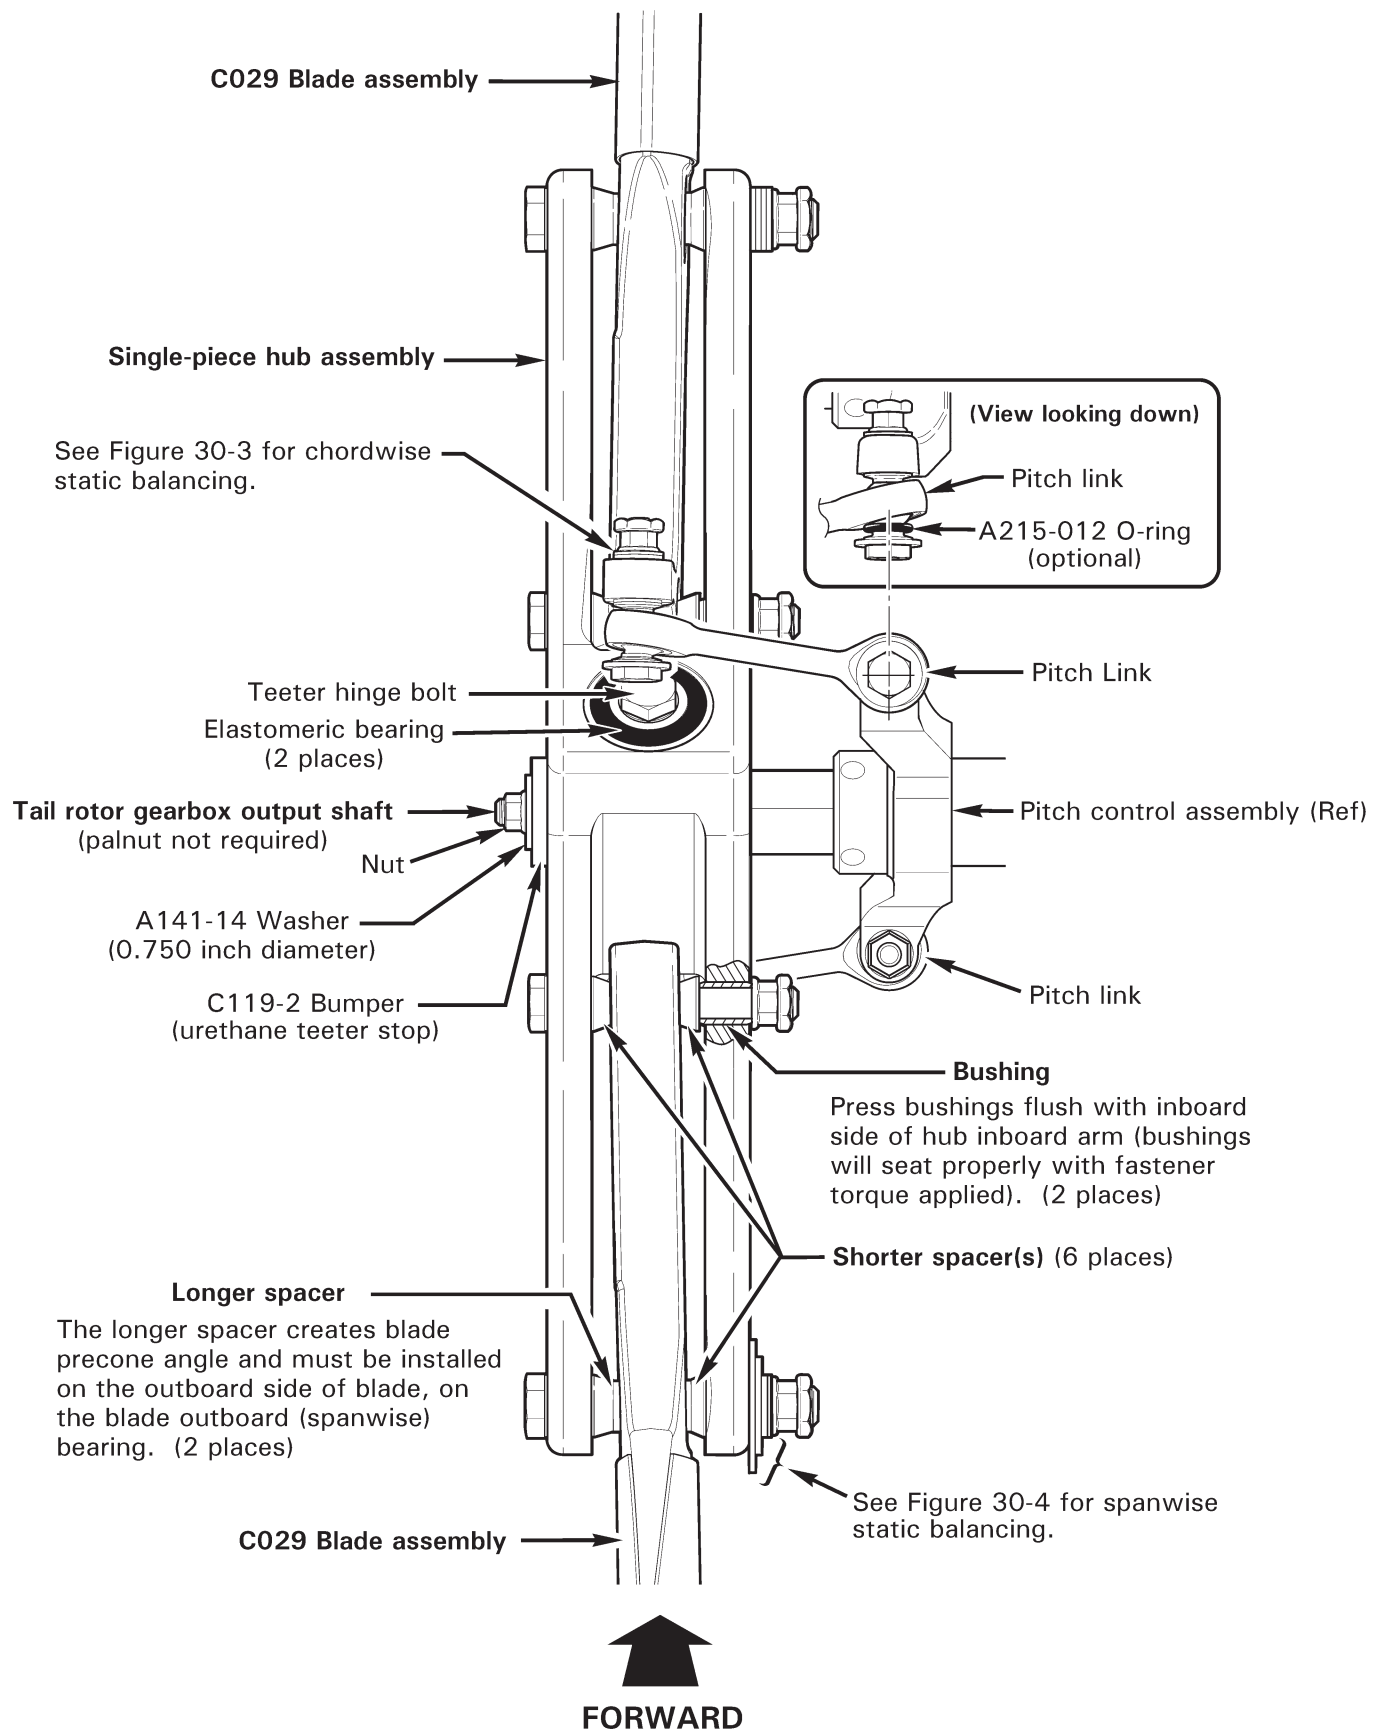
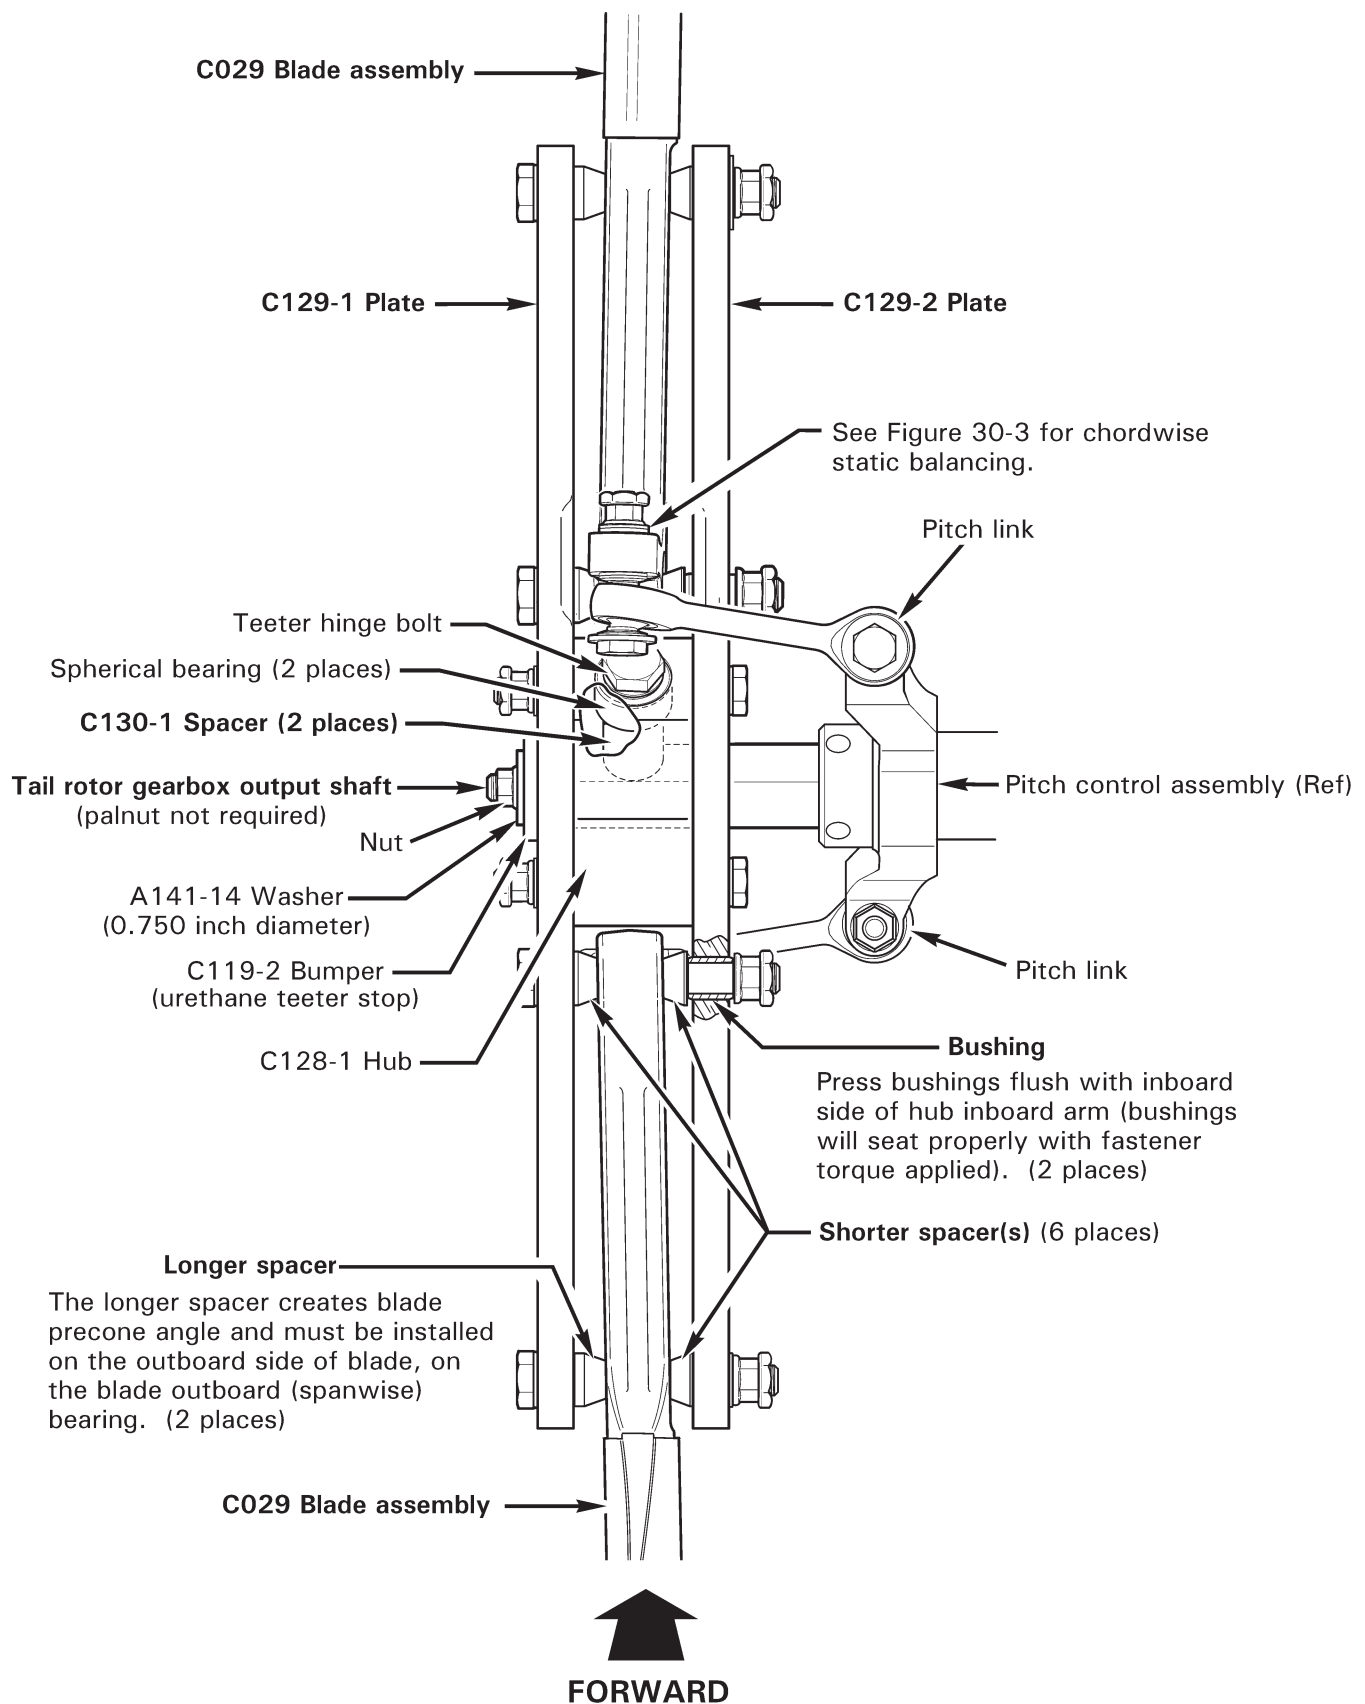

FIGURE 30-1 SINGLE-PIECE HUB TAIL ROTOR ASSEMBLY INSTALLATION
FIGURE 30-2 THREE-PIECE HUB TAIL ROTOR ASSEMBLY INSTALLATION
1. Refer to Figure 30-1 or Figure 30-2. Mark or tag each pitch link and corresponding blade for reinstallation. Remove hardware securing pitch links to tail rotor blades, noting hardware removed.
3. Refer to Figure 30-1. Position tail rotor assembly on tail rotor gearbox output shaft, matching tail rotor blades to corresponding pitch links. Verify tail rotor is installed for clockwise rotation when viewed from left side of aircraft.
3. Refer to Figure 30-2. Position C130-1 spacers inside hub and install tail rotor assembly on tail rotor gearbox output shaft, matching tail rotor blades to corresponding pitch links. Verify tail rotor is installed for clockwise rotation when viewed from left side of aircraft.
2. Refer to Figure 30-1 or Figure 30-2. Mark three-piece tail rotor hub assembly across the hub and plates for reinstallation.
2. Refer to Figure 30-1 or Figure 30-2. If removed, apply light coat of approved primer (see § 23-70) to outer surface of bushings; while primer is wet, press bushings flush with inboard side of hub inboard arm (bushings will seat properly with fastener torque applied).